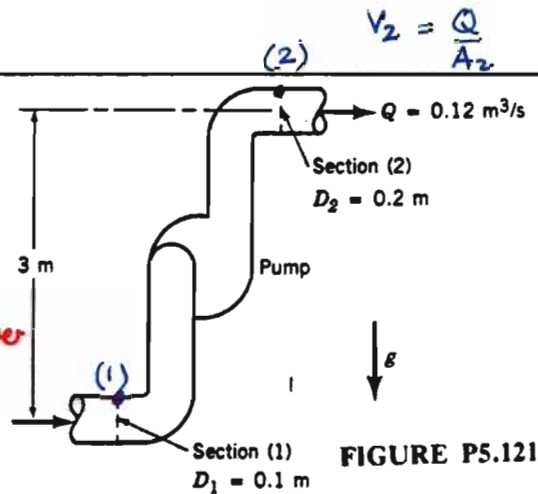

FIGURE P5.121
5.121 Gasoline ( $SG = 0.68$ ) flows through a pump at  $0.12 \text{ m}^3/\text{s}$  as indicated in Fig. P5.121. The head loss between sections (1) and (2) is equal to  $0.3V_1^2/2$ . What will the difference in pressures between sections (1) and (2) be if  $20 \text{ kW}$  is delivered by the pump to the fluid?